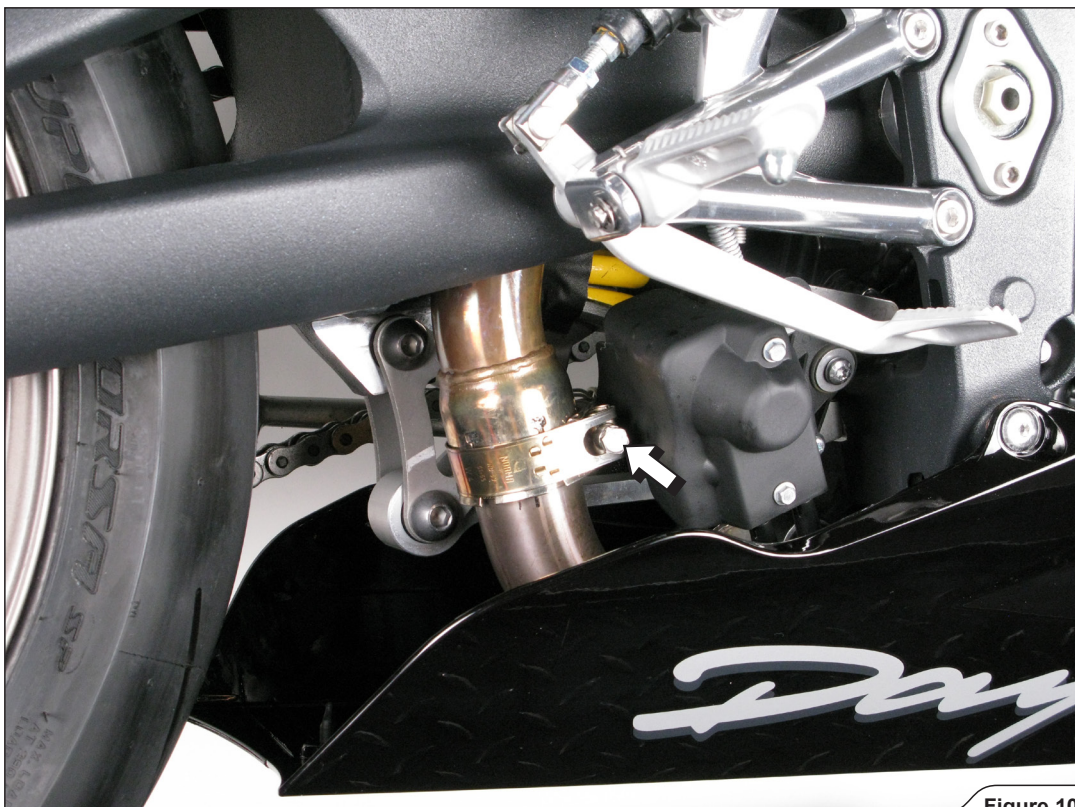

Figure 10
10. Untighten the link pipe clamp and remove the link pipe off the motorcycle (Figure 10).